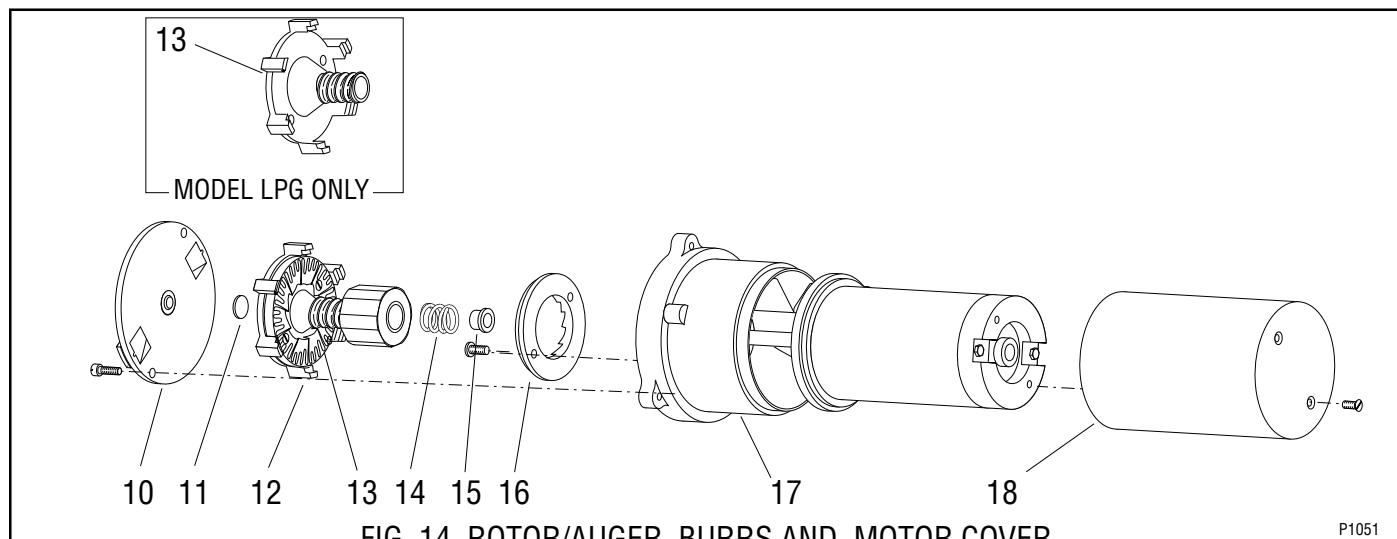

FIG. 14 ROTOR/AUGER, BURRS AND MOTOR COVER
NOTE: Refer to Fig. 14 for the disassembly and assembly of the burrs and rotor.
28. Refer to Fig. 14. Install rotor (12), lower burr (13) and spring (14) as an assembly on the motor shaft.
29. Install load disc (11) flat side towards rotor.
30. Install burr housing cap (10), adjusting screw, dechaffing spring plate and dechaffer support as an assembly to the new motor and housing assembly (17) using two #10-32 fillister head screws.
32. Install solenoids, solenoid bracket and mounting ring (6) as an assembly on the new motor with the solenoids located to the opposite side of the burr housing divider (8).
33. Install spacer plate (4) on burr housing divider (8) making sure the hole in the spacer plate (4) lines up with the hole in the mounting ring (6).
34. Install solenoid plunger with spring and slide plate (3) as an assembly into the solenoid coil. Place slide plate on the dowel in the mounting ring. Repeat for the opposite side.
35. Place filler plate (2) on mounting ring (6) over the top of the slide plates (3) with the holes in the filler plate in line with the holes in the mounting ring.
36. Install retaining ring w/hopper gasket (1) using three #8-32 pan head screws and three #8-32 keps nuts.